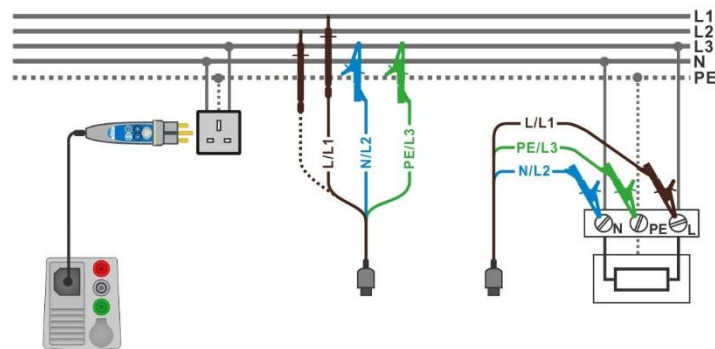

Figure 7.141: AUTO TN measurement
- › Connect 3-wire test lead or Plug commander to the object under test, see **Figure 7.141**.